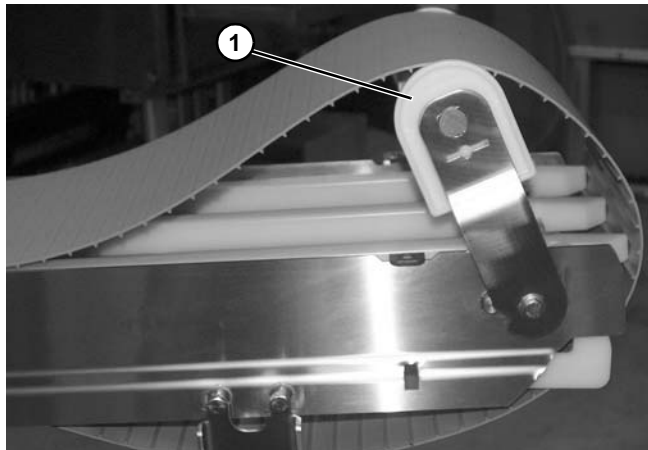

Figure 48
1. Tip up idler tail (**Figure 48, item 1**).